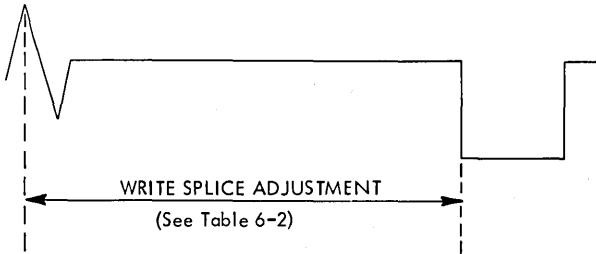

Figure 6-7. Write Splice Bit to Index Timing
- e. Adjust the time from write splice bit to the leading edge of the index pulse until it measures per Table 6-2. (Refer to Figure 6-7 to adjust the write splice to index time, loosen the Allen head screw holding the phototransistor located on bottom of chassis toward the front of the unit.) Using the adjustment handle protruding through the casting, move the phototransistor until the specification is met. Tighten the Allenscrew while observing the scope signal. Verify that the adjustment did not change. If the adjustment cannot be achieved, it may be necessary to adjust the LED sensor located on the top plate assembly.